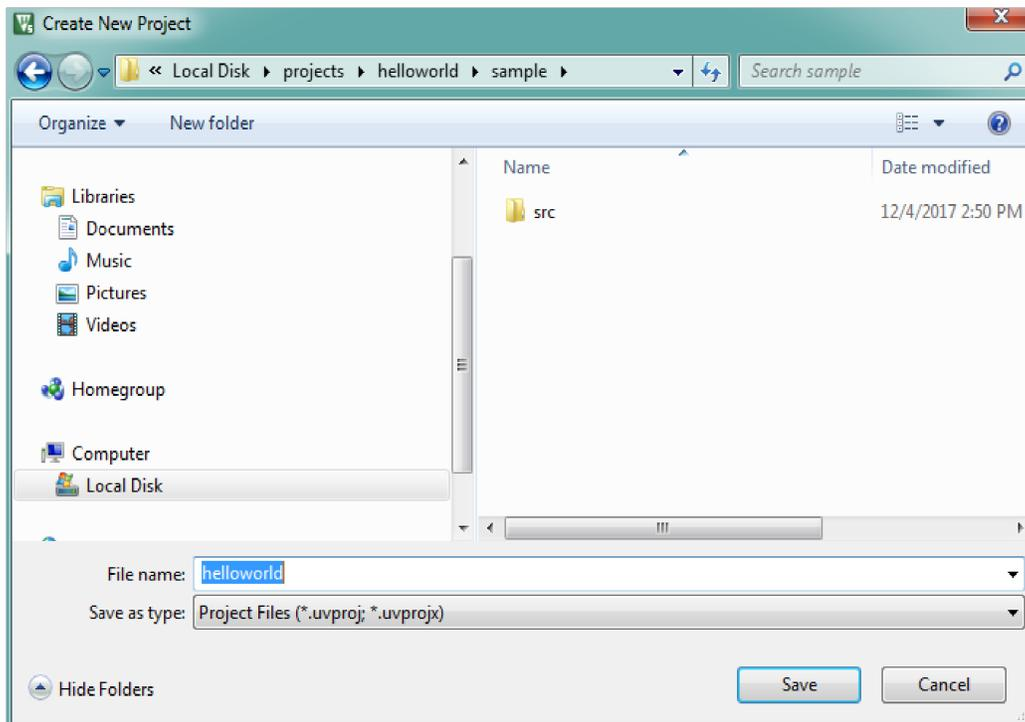

Figure 3: Project Setup
3. Under the directory of choice, specify the project name as **helloworld** and click Save, see Figure 3.